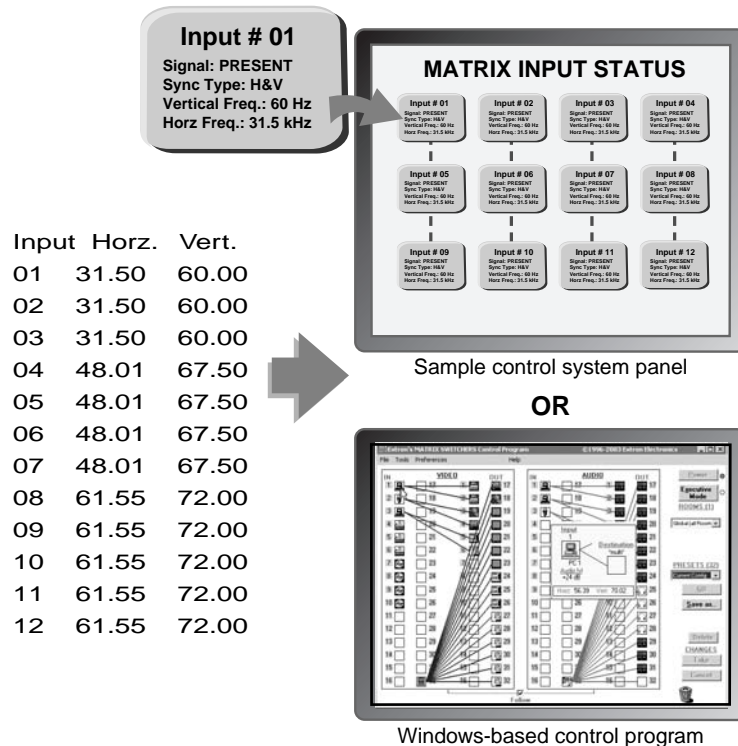

Figure 1-3 — DSVP data display
In critical environments or unmanned, remote locations, it may be vital to know that sources are active and switching. Extron's DSVP confirms that input sources are active by scanning all sync inputs for active signals. DSVP provides instantaneous frequency feedback for composite sync or separate horizontal and vertical sync signals via the switcher's serial ports or Ethernet port. The frequency information can be displayed on any control system or in a Windows®-based control program on a local-area network (LAN) or Internet (IP) connection (figure 1-3).